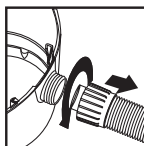

FIGURE 26
49. Unscrew hose locking-nut and remove hose from inlet. **FIGURE 26.**